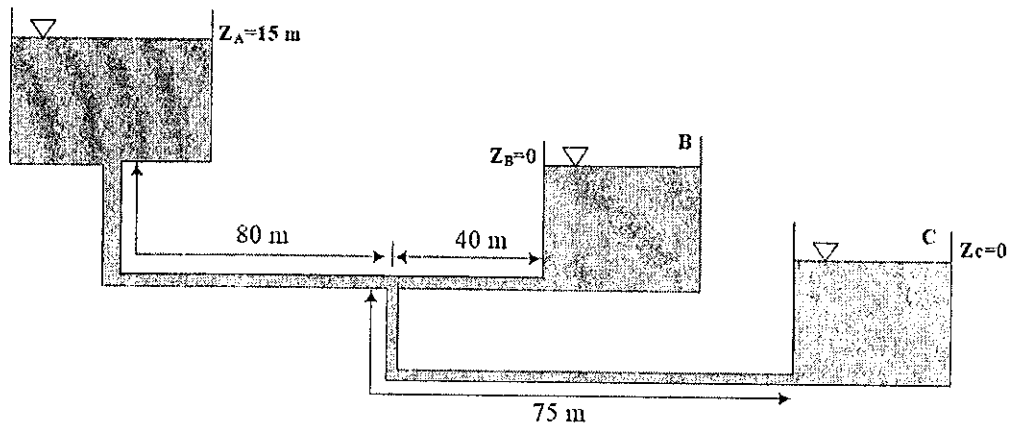

Figure Q5
- Q5. Water flows from tank A to tanks B and C as shown in Figure Q5. What is the flow rate into tank B? Neglect all minor losses and assume that the friction factor is 0.02 for all pipes. The diameter of each pipe is 0.01 m. Tank water elevations ( $Z_A$ ,  $Z_B$ , and  $Z_C$ ) are as given in the figure.